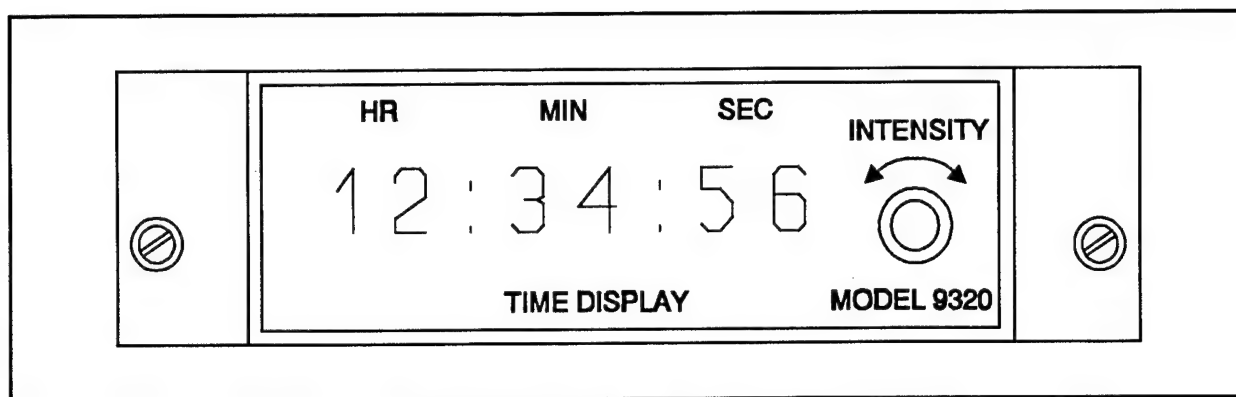

Figure 6-6. Range Time Display
A display for presenting range time (Figure 6-6) is located in each cockpit. In the front cockpit the time display is at the aft end of the right console and in the back cockpit it is on the forward portion of the right console. This is a six-digit decimal display indicating UTC (Universal Time Coordinated) in hours (00-23), minutes (00-59), and seconds (00-59). This time is initially set into an on-board time code generator during Special Instrumentation (SI) preflight and will be available and current if the DAS power is recycled.